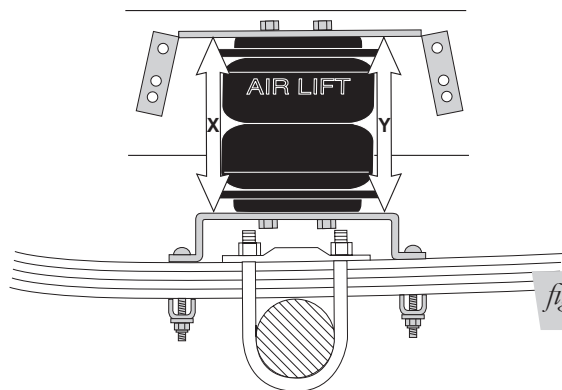

fig. 7
8. Check the upper to lower bracket measurement to ensure that it is still between 4.5" to 6.5" on the side of the center punched hole (in Figure 7, measurement X must equal measurements Y, as well as between 4.5" to 6.5").
9. Drill one  $\frac{3}{8}$ " hole in the previously marked location and loosely install a frame bolt (I), an oversized flat washer (J), and a nylock nut (K).
10. Measure the upper to lower bracket clearance on the other side of the upper bracket. This measurement should be equal to the measurement of the other side of the upper bracket (in Figure 7, measurements X must equal measurement Y, as well as be between 4.5" to 6.5").